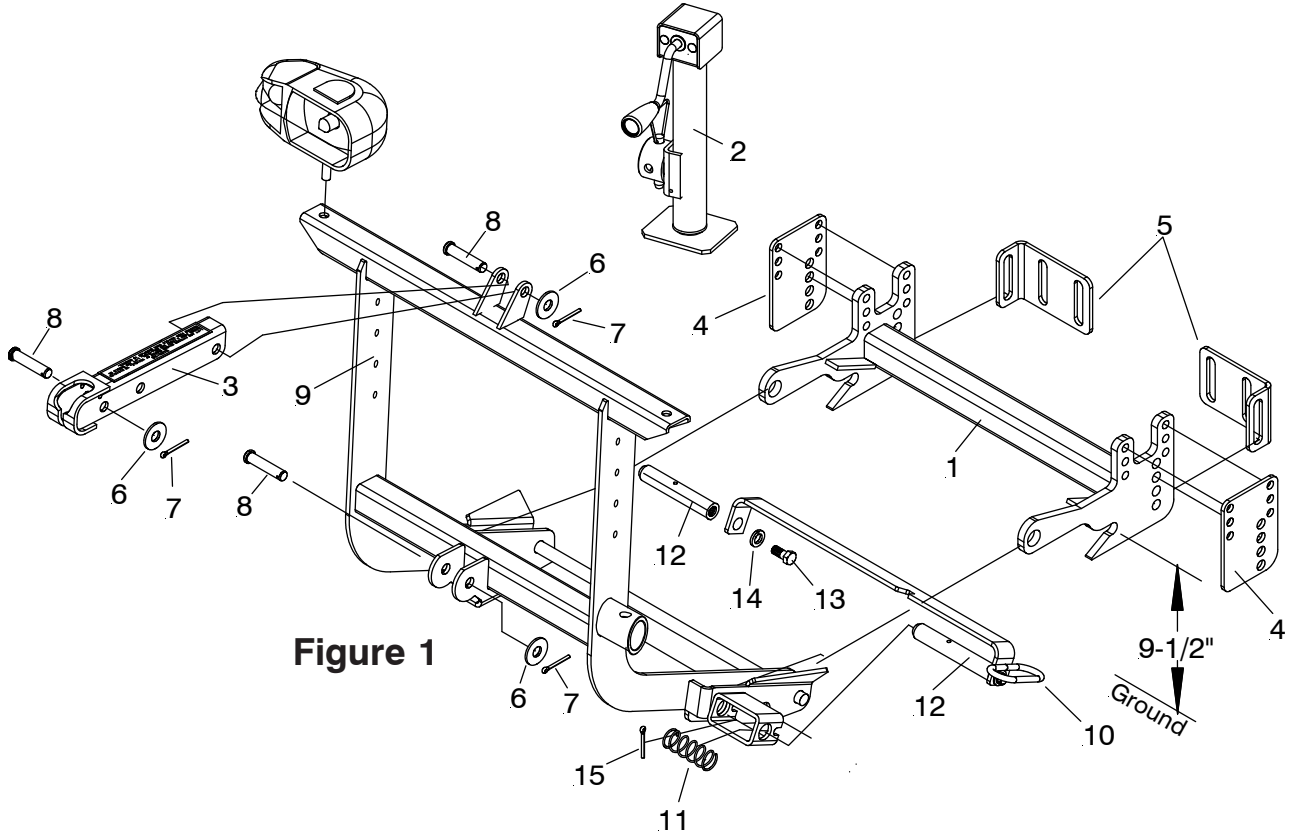

Figure 1
A. Assemble Clevis Frame (1) to vehicle per separate Mounting Carton Instructions. Use the holes on the Clevis Frame (1) that will put the rear slot closest to 9-1/2" from the ground as shown. Spacer (4) and Bracket (5) will be needed as shown.
B. Note: Handle Pin has been pre-assembled to the Lift Frame. Assemble Pin (12) to Handle Pin (10) using 3/8-16 x 1-1/4" Bolt (13) and 3/8" Poly washer (14). Only tighten until head of bolt begins to touch poly washer. Assemble to Lift Frame (9) by inserting the Pin (12) through the Lift Frame plates, through the center of the spring (11). Compress the spring (11) slightly with your fingers and insert the 3/16" x 1-1/2" Cotter Pin (15) through the small hole towards the center of the pin. With cotter pin (15) fully inserted, bend the cotter pin in place. Align the notch on the Handle Pin (10) to Lift Frame (9) to lock in place (disengaged). **Note: Lubricate the stainless steel pins and Lift Frame bearing surfaces with chassis grease or anti-seize lubricant periodically for easier disengagement of pins.**
C. Slide Crank Stand (2) to the receiver tube on the Lift frame (9). Pin Crankstand (2) to the Lift Frame (9).
D. Attach Lift Frame (9) to Clevis Frame (1) (Ref. Figure 1). Twist the Handle Pin so that the two Pins (12) engage. The spring loaded pin should snap into place locking the lift frame to the clevis frame.
E. Attach Lift Arm (3) to Lift Frame (9), Mount Hydraulic unit to lift frame (9) and to lift arm (3) using Pivot Pin (8), 5/8" Washer (6) and 1/8 x 1-1/4" Cotter Pin (7).
H. Attach the Lift Chain to the Lift Arm (3) through the hook on the lift arm. Adjust the lift chain at the lift arm so that there are 2-3 links of slack. This ensures that the plow blade will lift fully and be able to follow the ground contour while plowing.